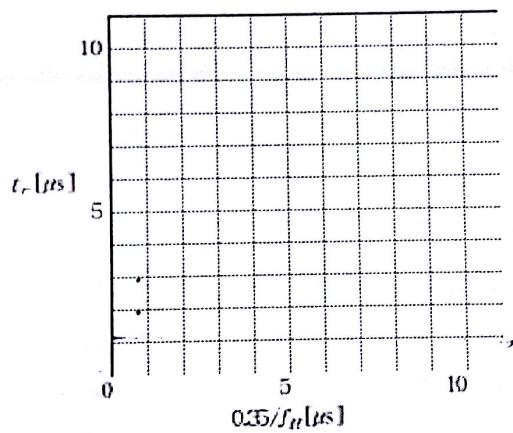

Figure 2-14. Relationship between bandwidth and rising time
- (9) Record the result after calculating $0.35/f_H$ against bandwidth of each transmission channel provided in table 2-3.
- (10) Draw the result of table 2-3 in graph to indicate rising time against bandwidth into figure 2-14.